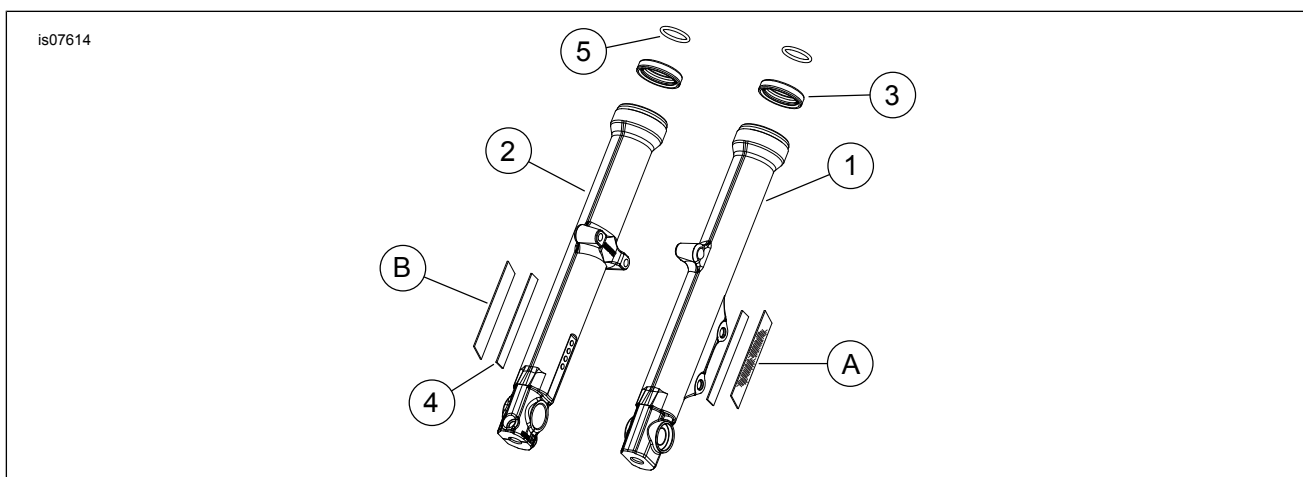

Figure 2. Service Parts: Chrome Fork Sliders
See Figure 2 and Table 1.
5. See the service manual. Disassemble the front fork tubes. Replace the original fork sliders with the chrome sliders (see Figure 2, items 1 and 2) from the kit.
- Using a piece of dental floss (or similar material) in a back and forth motion, loosen the reflector ( Figure 2, A). Rotate the reflector from side to side until it can be removed from the fork slider. Retain the reflector for installation to the **new** slider. Repeat the procedure on the opposite side fork slider.